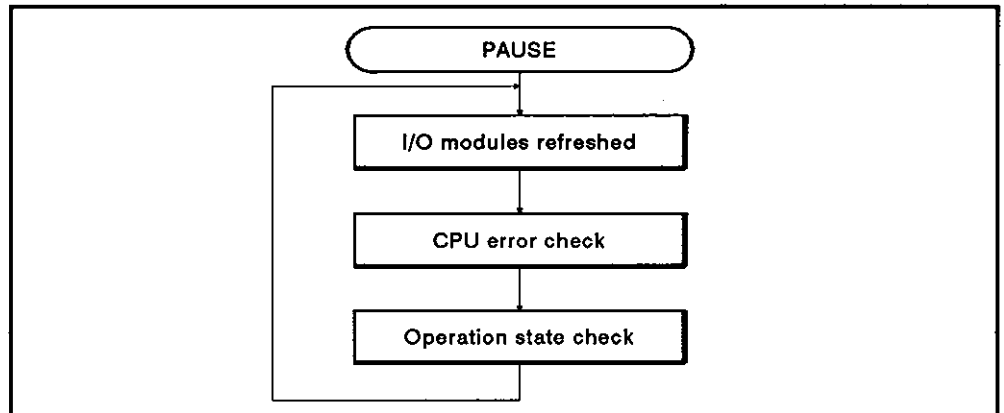

Fig. 4.10 PAUSE Operation Processing
- (3) PAUSE operation processing
- (a) The PAUSE state indicates the state in which sequence operation processing is stopped by the remote PAUSE signal. The status of the outputs (Y) and the data memory are retained.
- (b) In the PAUSE state, the processing illustrated in Fig. 4.10 is repeated until the operation state is changed from PAUSE to RUN or STOP.